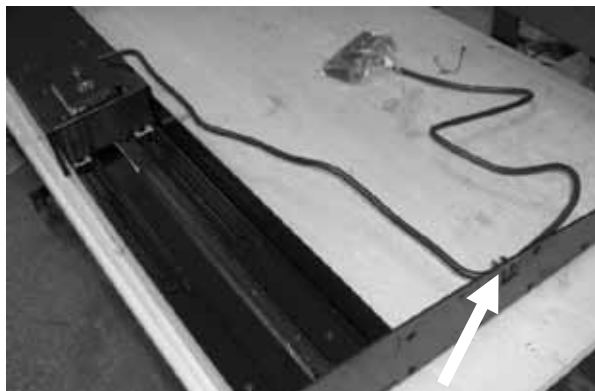

Fig. 6
11. Run the leg to its maximum stroke and connect the wire of the new control panel to the upper part using 2 binding strips (Fig. 6)